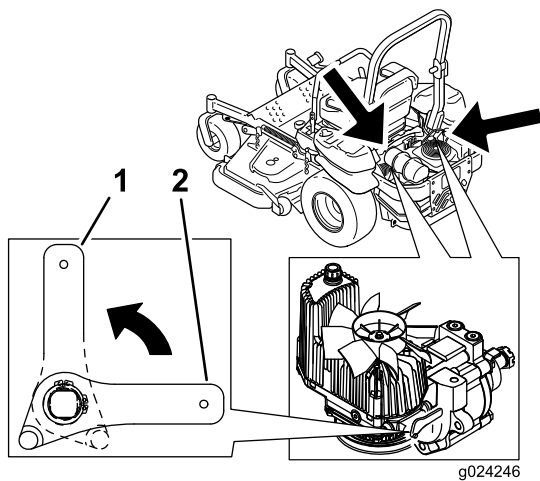

Figure 32
2. Rotate the release valve levers vertically to push the machine. This allows hydraulic fluid to bypass the pump enabling the wheels to turn (Figure 32).
4. Rotate the release valve levers horizontally to run the machine (Figure 32).